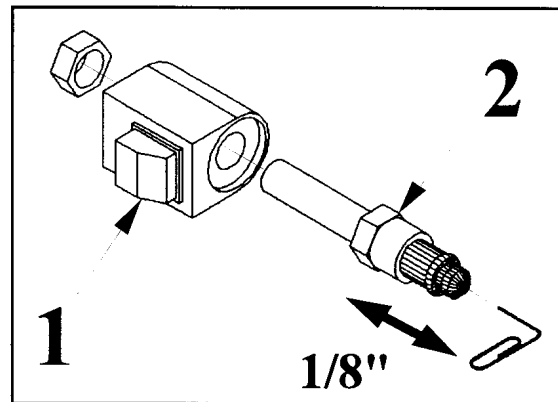

Figure 2
7. To check the valve itself, remove the **Coil Assembly**, (Item 1), then unscrew the **Valve** (Item 2), from the Pump. Using a Paper Clip, push on the plunger inside the valve. (Figure 2). It should move freely approximately 1/8". If not, clean or replace the Valve as needed.